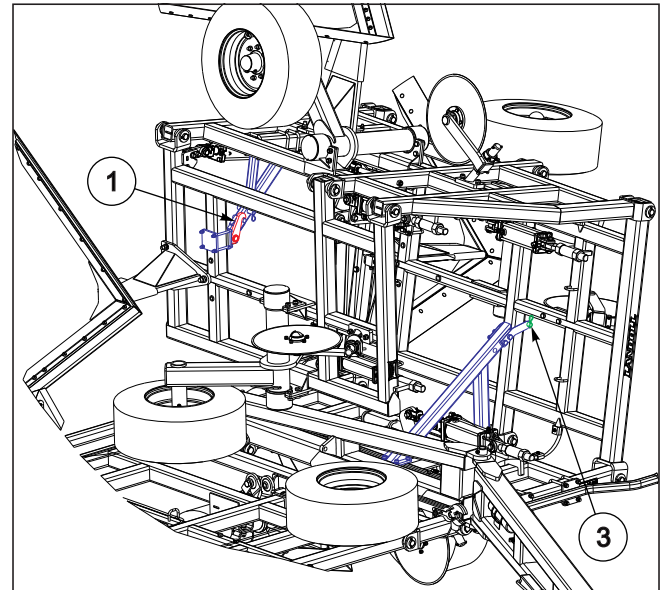

Figure 4-9: Folding Wing Lock Pin
5. Install wing lock pin (3) See Figure 4-9.